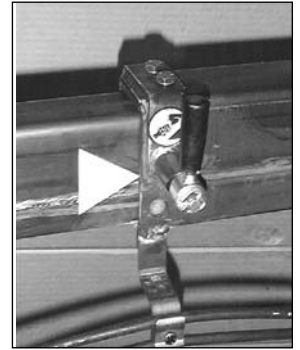

fig. 12
- Position lever **B**, placed on the first support, (fig. 12) upwards; the spring loaded security pin will be released from it's position.